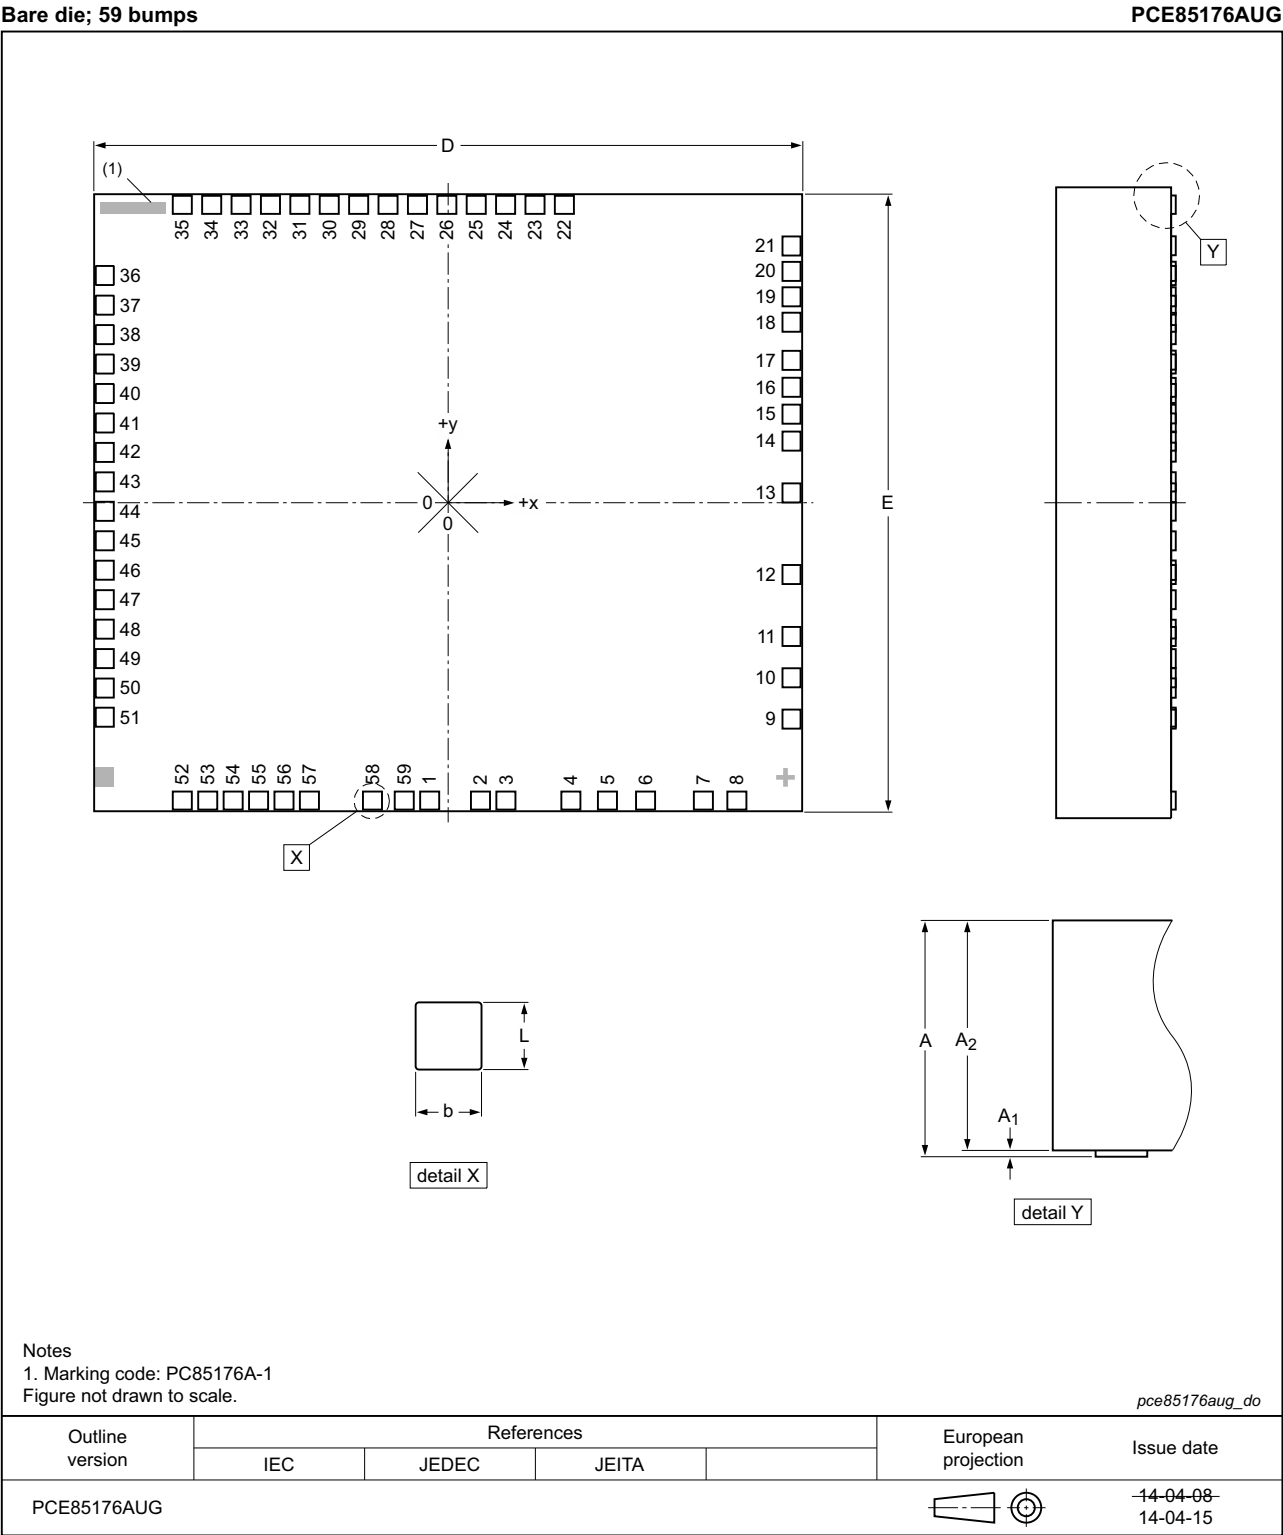

Fig 27. Bare die outline of PCE85176AUG
**Table 27. Bump location for PCE85176AUG**All x/y coordinates represent the position of the center of each bump with respect to the center (x/y = 0) of the chip (see Figure 27).
All x/y coordinates represent the position of the center of each bump with respect to the center (x/y = 0) of the chip (see Figure 27).
The approximate positions of the alignment marks are shown in Figure 27.
All x/y coordinates represent the position of the REF point (see Figure 28) with respect to the center (x/y = 0) of the chip (see Figure 2, and Figure 27).